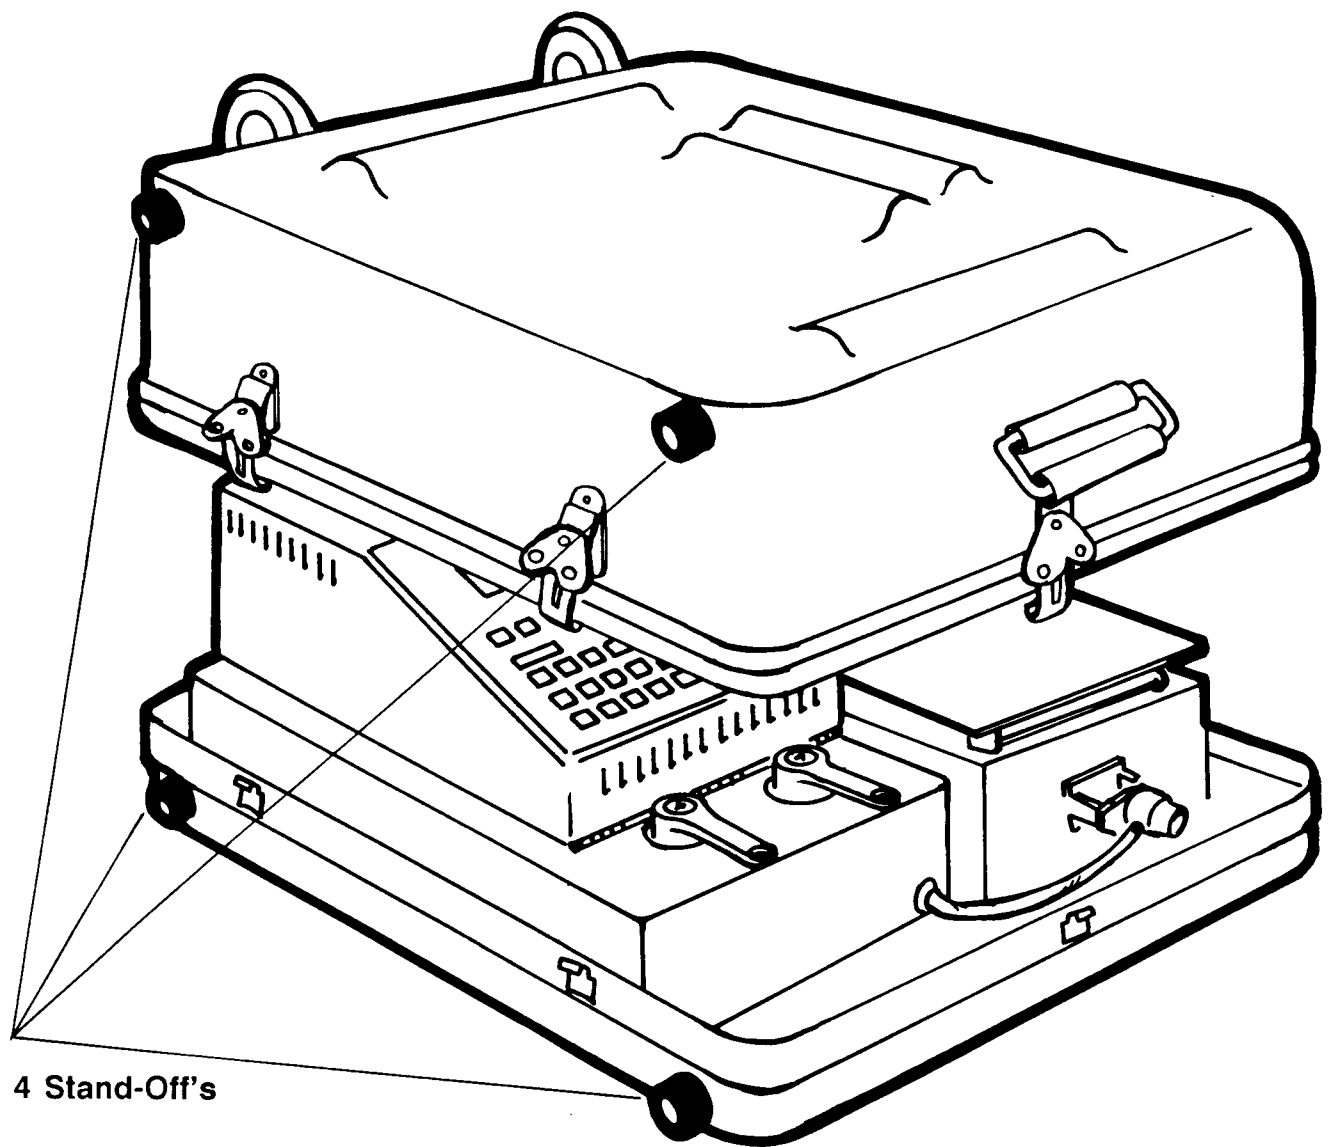

Figure 4.3-1. Repacking the Model VT-1B or VT-2 Ventilator Tester
4. When replacing the top of the carrying case, make sure the 4 stand-off's on the outside are oriented as shown in Figure 4.3-1.